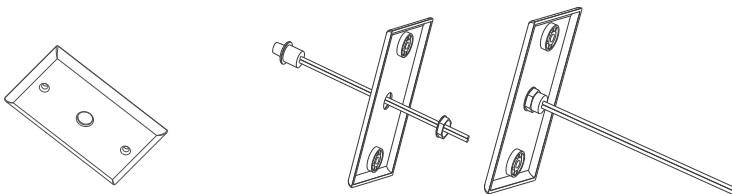

Figure 2-1
1. Attach the indicator to the EM Inverter Indicator Wall Mount Plate (refer to Figure 2-1).